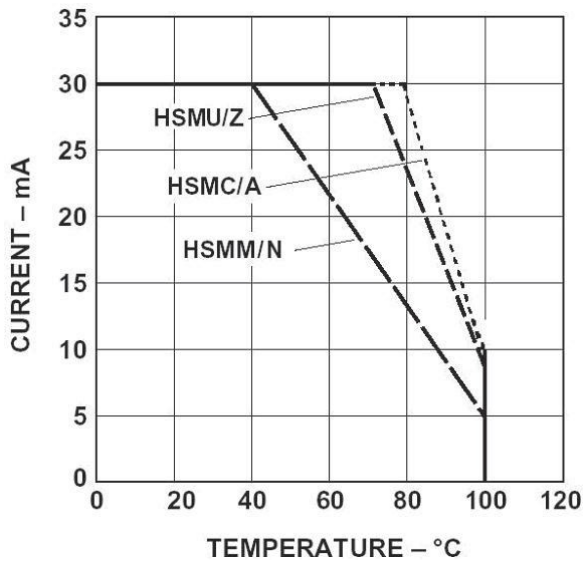

Figure 5. Maximum Forward Current Vs. Ambient Temperature. Derated Based on $T_{J\text{ MAX}} = 110^\circ\text{C}$, $R\theta_{JA} = 500^\circ\text{C/W}$
1. Derate linearly as shown in figure 5.